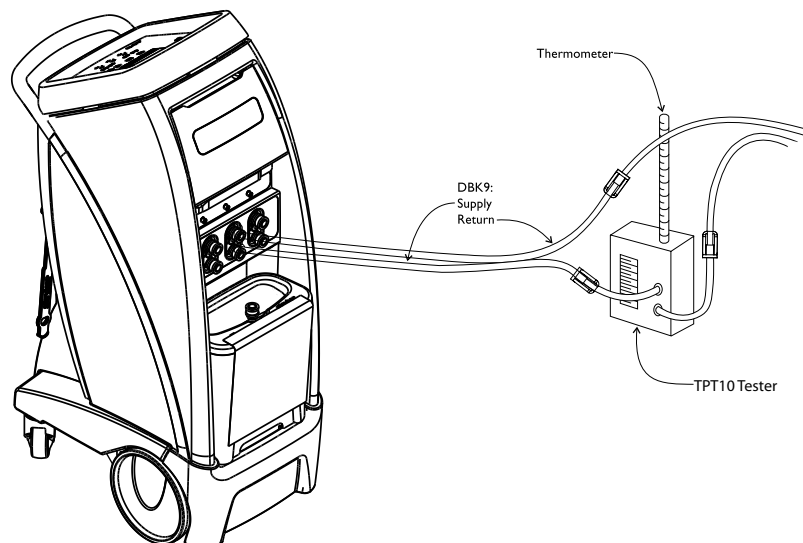

Figure 56 – Connect to controller
1. Connect two 12 inch loop back hoses to ports 2 and 3 (Figure 56).